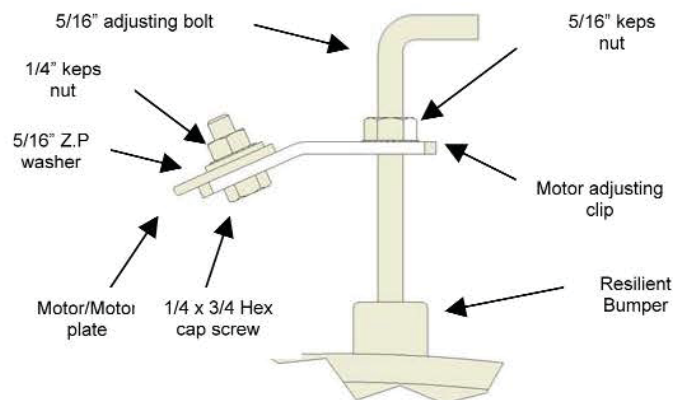

FIGURE. 4: MOTOR MOUNTING
7. Tighten the adjusting bolt to tension the V-belt and lock in place using the keps nut. (Figure 4) **Note: Ideal belt tension is the lowest tension at which the belt will not slip during start up.**